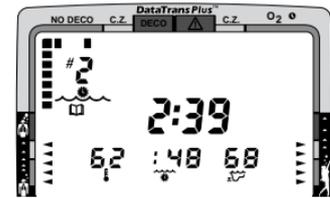

Fig. 77 - Log Mode
6. Press the Advance/Left button once more to view the information associated with nitrogen (Fig. 77). Displayed will be: Log Mode icon, dive Number, Surface Time between that dive and the one previous to it, lowest water Temperature during the dive, Elapsed Dive Time, and Maximum Depth. If the dive shown in the log display was the only one of the day, Surface Time will represent the time between initial activation and the beginning of the first dive. Also shown will be the tissue nitrogen loading at the time you surfaced from the dive (Tissue Loading Bar Graph), the maximum rate of breathing gas consumption (Gas Consumption Indicator), and the maximum rate of ascent at any time during the dive (Variable Ascent Rate Indicator).